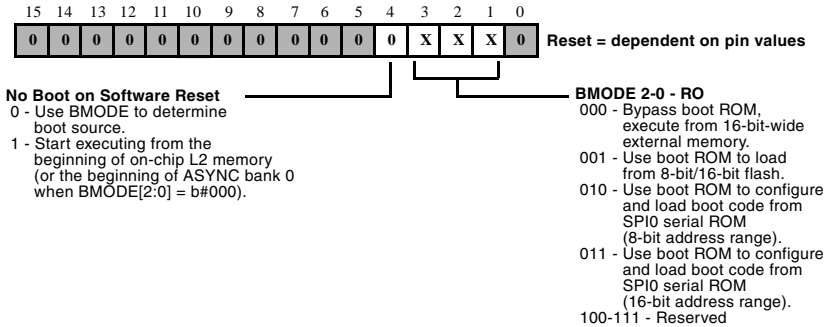

Figure 3-8. ADSP-BF535 Processors: SYSCR Register
2. Checks whether the `RESET` is a software reset and if so, whether to skip the entire boot sequence and jump to the start of L2 memory (`0xF000 0000`) for execution. The on-chip boot ROM does this by checking bit 4 of the system reset configuration register (`SYSCR`). If bit 4 is not set, the on-chip boot ROM performs the full boot sequence. If bit 4 is set, the on-chip boot ROM bypasses the full boot sequence and jumps to `0xF000 0000`. The register settings are shown in Figure 3-8.